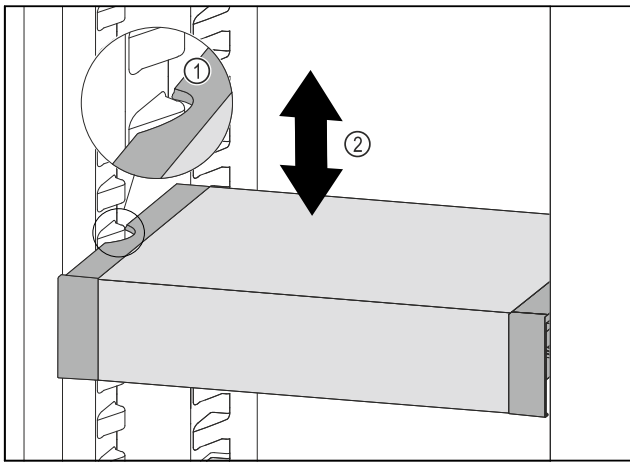

Fig. 119
- Pull VarioSafe forwards until the recesses in the side of the VarioSafe are at the level of the support rib in the refrigerator compartment. Fig. 119 (1)
- Move VarioSafe up or down in the refrigerator compartment until the desired height is reached. Fig. 119 (2)